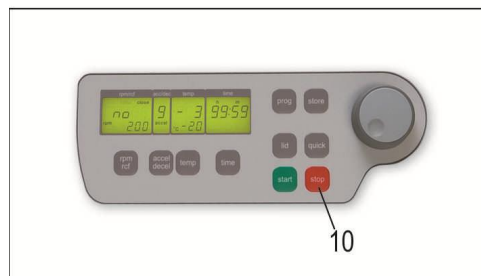

Figure 29
By the „stop“ key (10) (see figure 29) you can interrupt the run at any time. After pressing the key the centrifuge decelerates with the respective pre-selected intensity down to stand still.